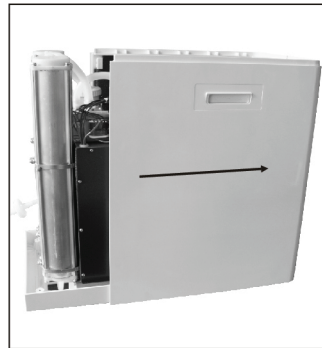

Figure 22
- › Make the machine up-right, take out the cabinet parallel from the front. (Figure 22)